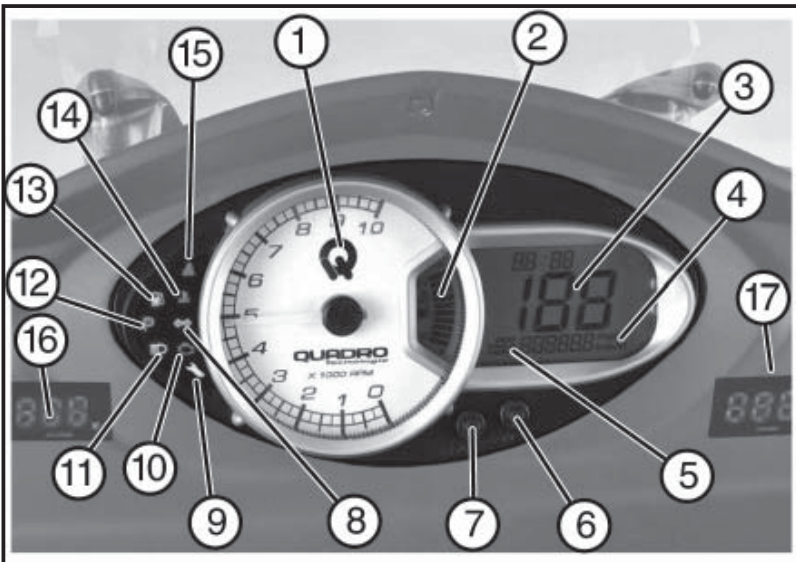

Fig. 02
4.7 INSTRUMENT PANEL LAYOUT (Fig. 02)